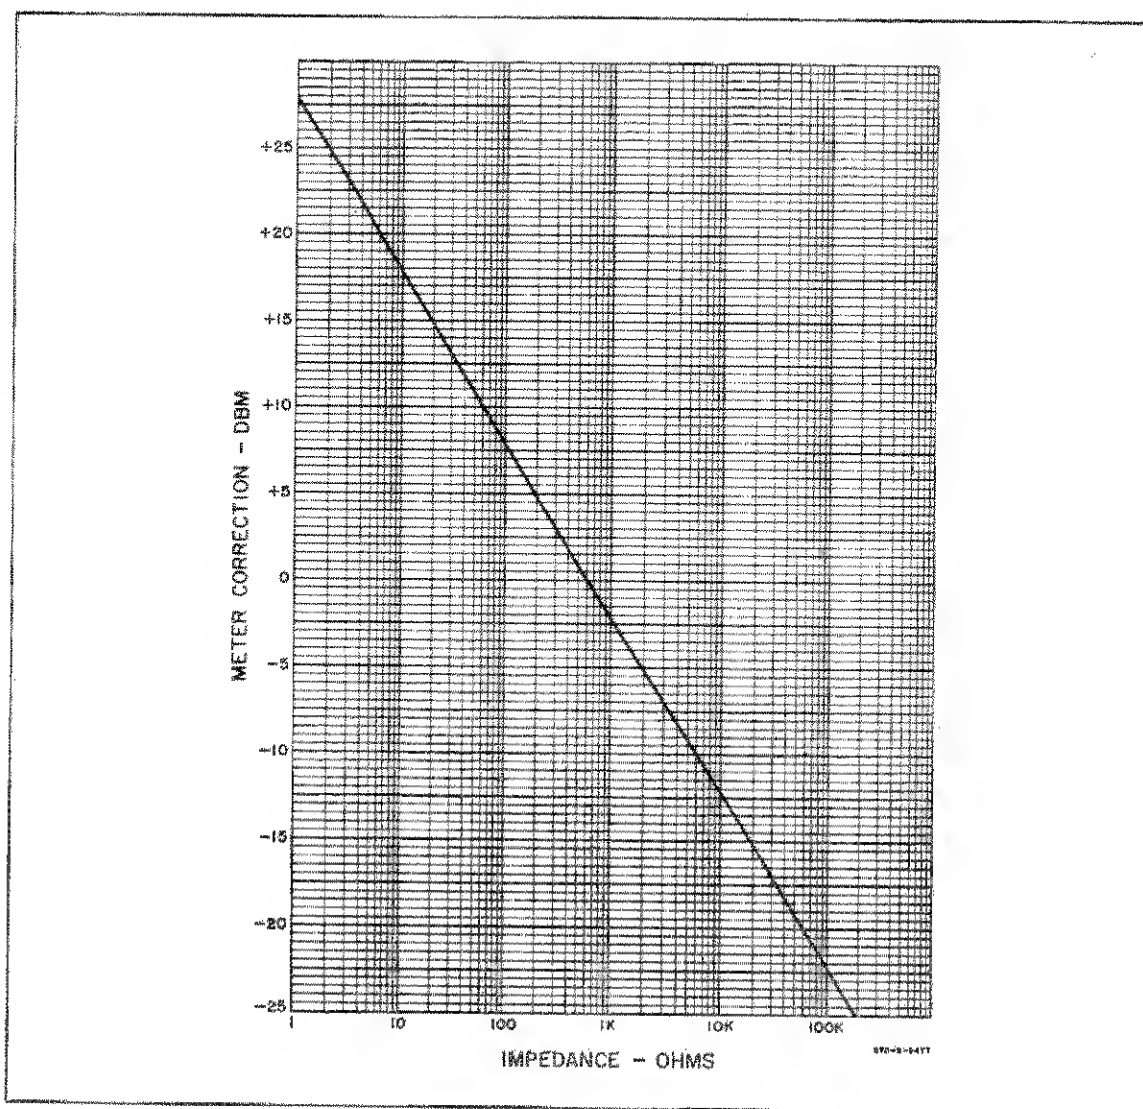

Figure 3-3. Impedance Correction Graph.
- g. The dB scale of the 333A/334A is calibrated in dBm, such that 0 dBm = 1 milliwatt dissipated by 600 ohms. Therefore, a dBm measurement must be made across 600 ohms. However, dB measurements across other impedances can be converted to dBm by use of the Impedance Correction Graph of Figure 3-3. For example: to convert a -30 dB reading across 200 ohms to dBm, locate the 200 ohm impedance line at the bottom of the graph. Follow the impedance line to the heavy black line, and read the meter correction at that point. The correction for 200 ohms is +5 dBm; thus the corrected reading is -25 dBm.